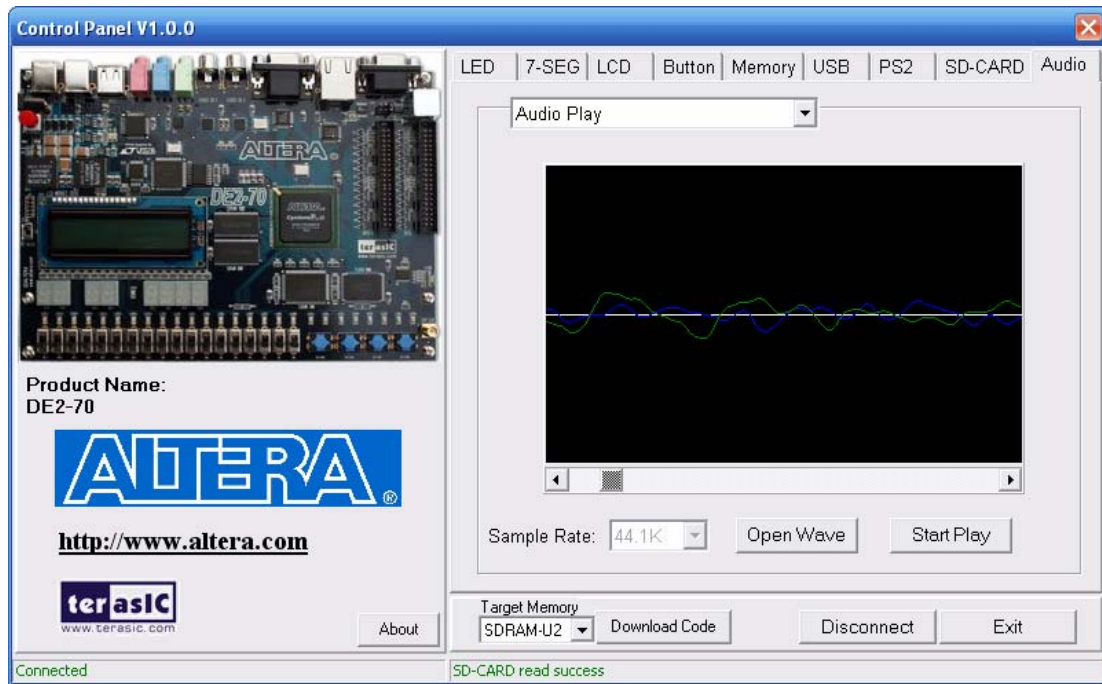

Figure 3.11. Playing audio from a selected wave file
1. Choosing the **Audio** tab leads to the window in Figure 3.11.
3. Select the "Play Audio" item in the com-box, as shown in Figure 3.11.